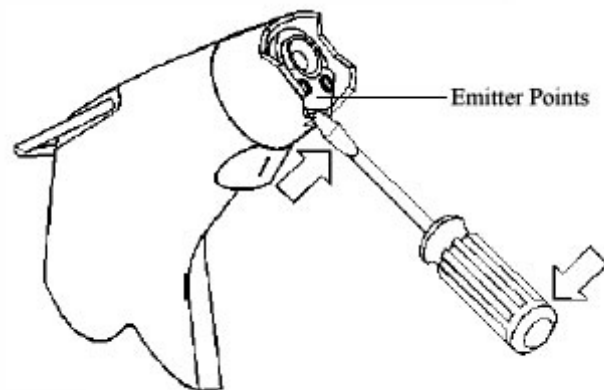

Figure 1. Use the screwdriver as a lever.
3. Using the screwdriver as a lever, loosen the old clip, then grasp it between your thumb and forefinger and detach it from the gun. **See Figure 1.**